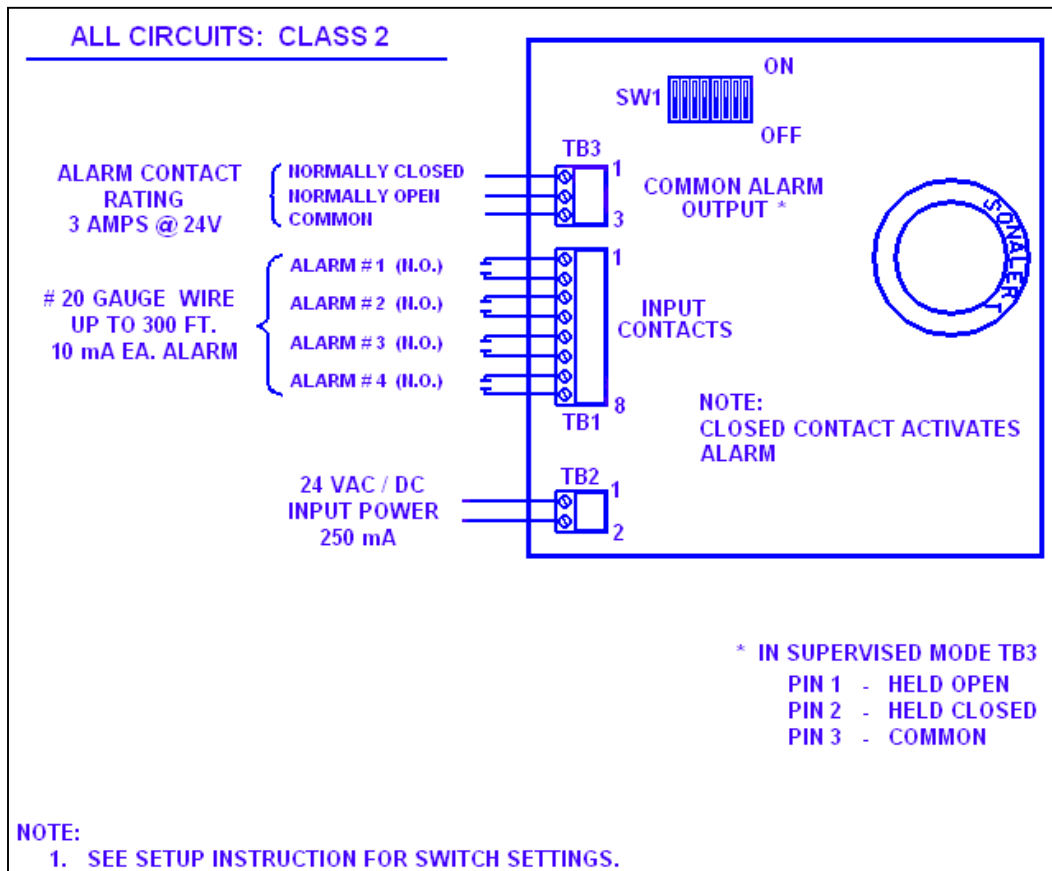

Figure 3: Connection Diagram
Wiring considerations for the RCM4 can be partitioned into (3) categories: alarm inputs; common alarm output; power. Refer to Figure 3.